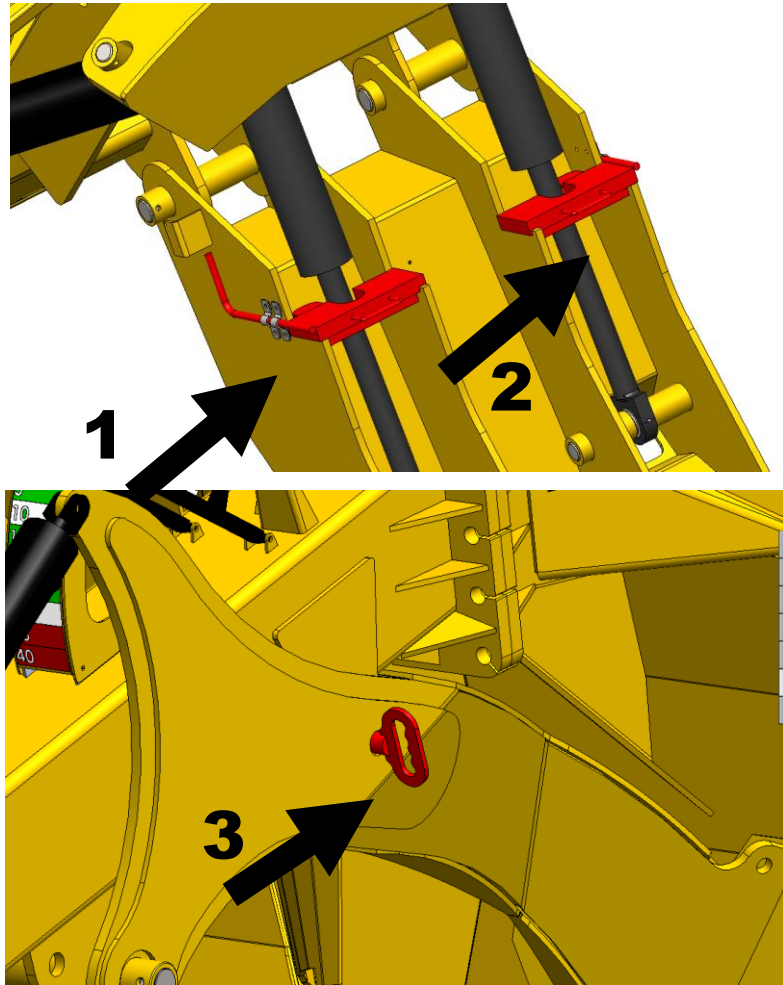

Figure 1.1 – Shows the safety locks marked by arrows
5. Operate the wing lift hydraulics to raise the wings fully into transport position. Use transport safety chain to lock the wings in transport position. Apply transportation locks (figure 1.1).